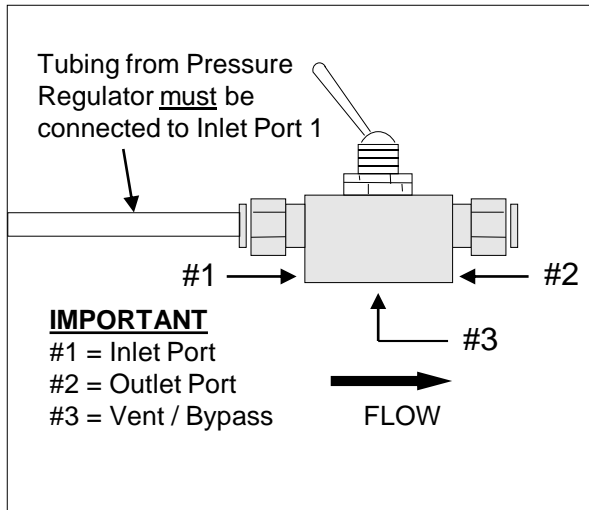

Figure 4
7.1 Locate numbers #1, #2, and #3 stamped on body on Bypass Switch (#1 and #2 are located under 8mm push-fit couplings and #3 is on bottom of valve). #1 is Inlet port. #2 is Outlet port. #3 port is "Bypass" or vent port. See Fig 4.